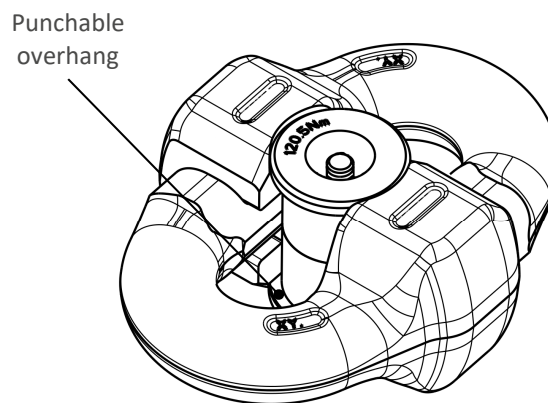

Figure 4: Remove lock
- To disassemble the lock halves, strike the lock on the lower overhang (refer Figure 4 below) using the hammer and punch. Alternate between both sides until the two halves are free.